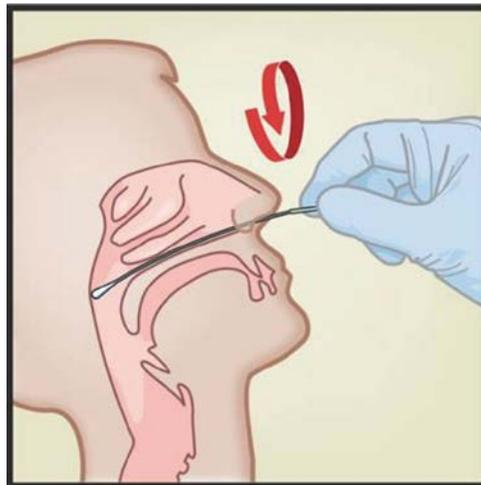

Figure 1. Nasopharyngeal Swab Collection
1. Insert the swab into either nostril, passing it into the posterior nasopharynx (see Figure 1).